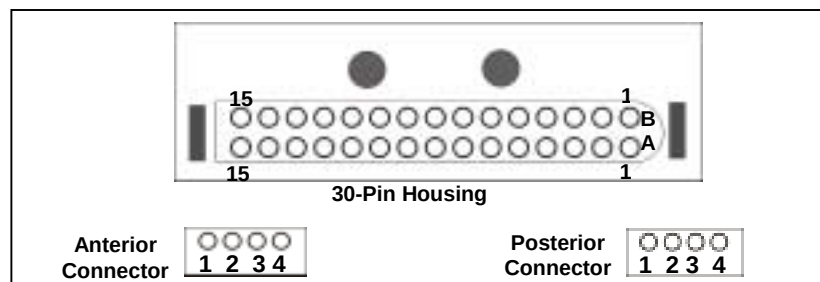

Figure 22: Pin layouts of 30-pin housing and anterior and posterior connectors.
Step 3 – Refer to *Figure 22* and Center Pin and Ground Connections – Table 3-3 for the correct pins.